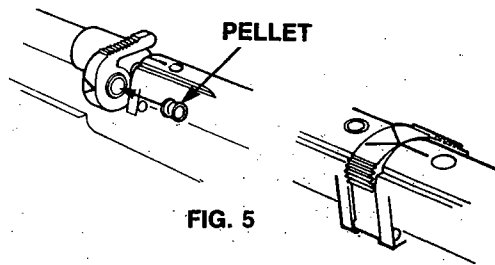

FIG. 5
- Place pellet, nose first, into the pellet loader. (Fig. 5). To avoid jams, make sure pellet skirt is flush with the back of the loader.
- Close the pellet loader. Make sure you have pushed it all the way over so the pellet is properly aligned with the barrel. The loader is closed properly when the arrow on the loader is lined up with the line on the breech. (Fig. 5).